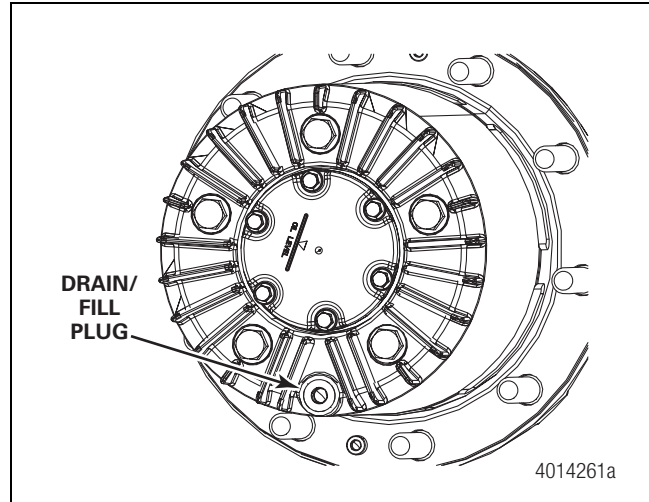

Figure 4.1
5. Rotate the wheel ends so the drain plug is on the bottom. Remove the drain plug and drain the lubricant from the wheel ends. Figure 4.1.